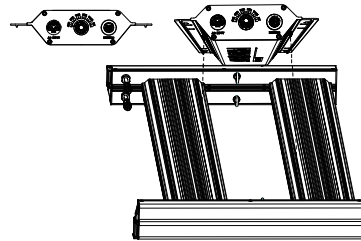

Fig. 2
- b. Use allen key (Part C) to loosen hinge hole B on both hinges, as Fig. 2.